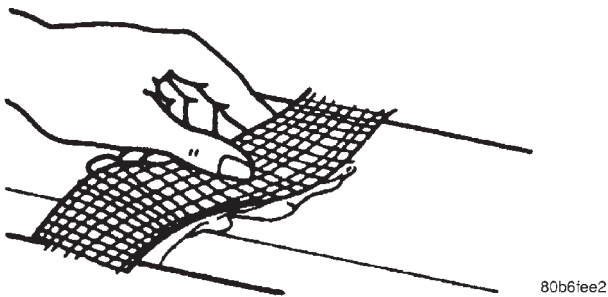

Fig. 6 Fiberglass Tape
- Panel repair for both flexible and rigid panels are basically the same. The primary difference between flexible panel repair and rigid panel repair is in the adhesive materials used (Fig. 6).